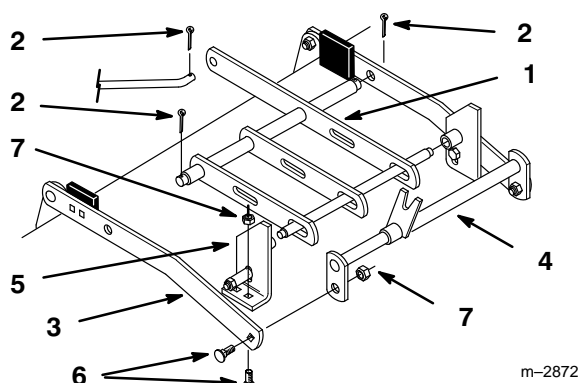

Figure 3
1. Remove the cotter pins securing the leveling assembly to the mower (Fig. 3). Remove hardware securing the front mounting bar to the right hand leveling bar (Fig. 3).
2. Remove the hardware securing the right bracket to mower deck and remove the leveler assembly (Fig. 3).
3. Replace the leveler assembly with new one furnished, containing three bars, and secure the right hand bracket to mower with previously removed hardware (Fig. 3).
4. Attach the front mounting bar to the right hand leveling bar with previously removed hardware and install cotter pins in leveling assembly (Fig. 3).